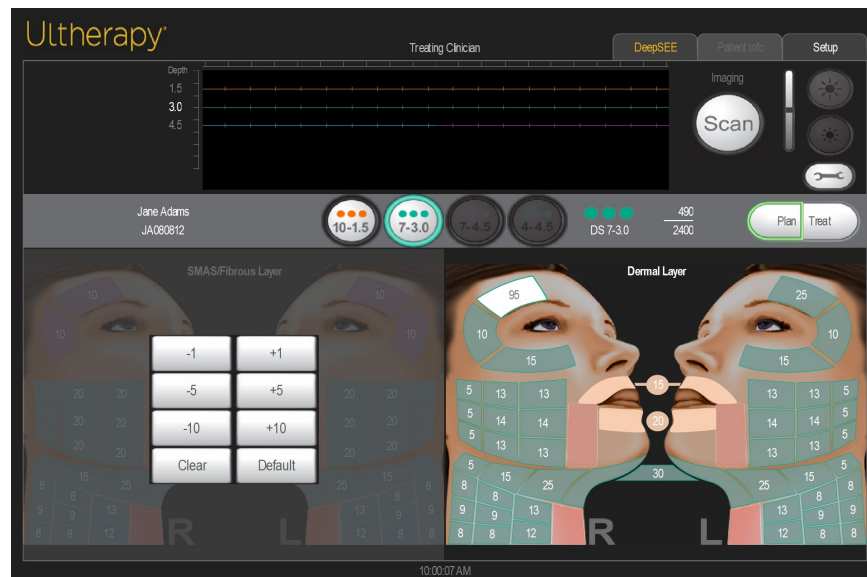

Figure 7.14, White color region after update
9. After the user modifies the treatment line count for a region using the treatment map, the selected region will be displayed in white with the updated treatment line count as shown in Figure 7.14.